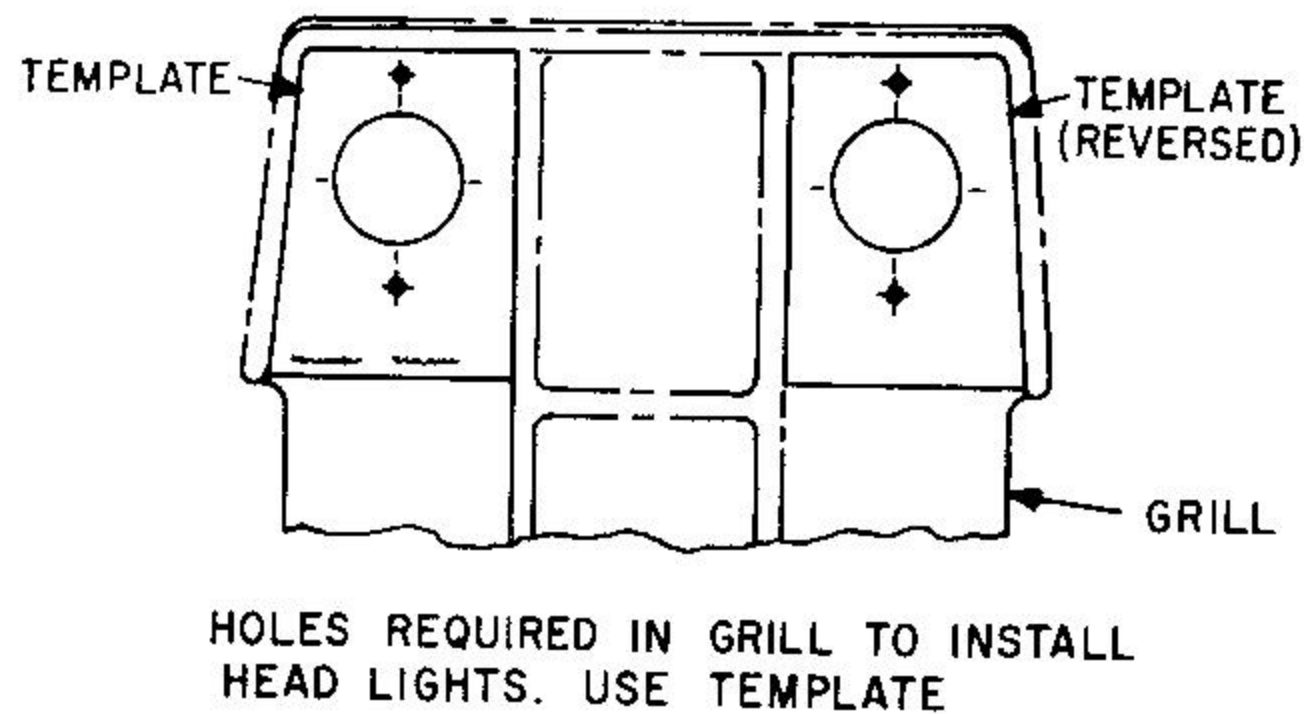

Figure 1
1. Place the template with the large hole on the outside left corner (while facing the front of the tractor) of the grill. Allow the template to lay flush with the inside edge of the raised grill edge. See Figure 1.